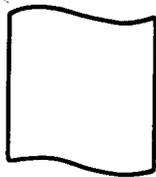

Fig. 24—Microform Symbol
2.24 *The microform symbol* (Fig. 24) represents any microform used in a micrographic systems flow.